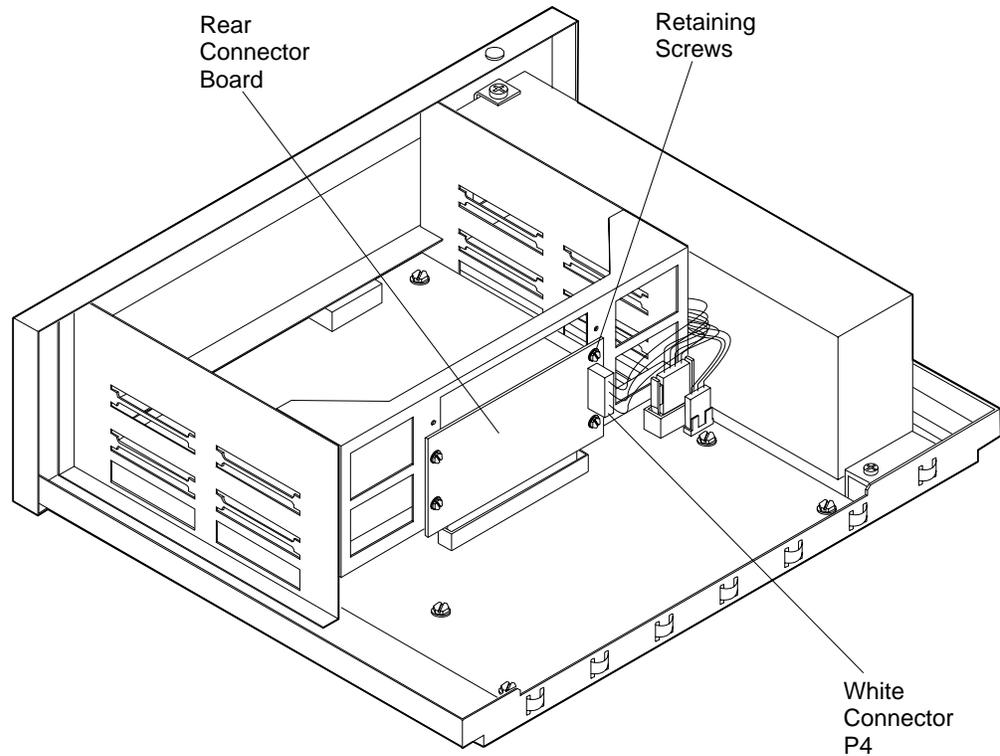

Figure 12-11. Rear Connector Board
3. Connect the white connector plug (labeled P4) to the board as indicated in Figure 12-11.